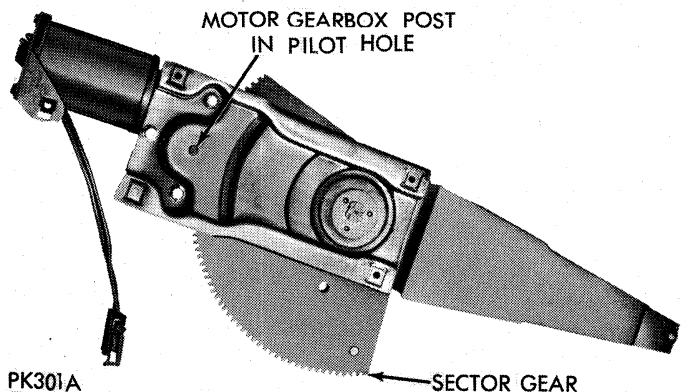

Fig. 4—Electric Motor Mounting (Typical)
- (2) Disconnect wiring connector from motor which is located about eleven (11) inches from motor.
- (3) Remove three (3) mounting screws that hold motor gearbox to regulator. Remove third screw that secures motor tie-down bracket to inner panel if so equipped. There are three holes in inner panel which provide access to three (3) mounting screws that secure gearbox to regulator (Fig. 4).
- (4) To remove motor from regulator, grip motor housing and pull motor towards outer panel. Some rocking or twisting action may be necessary to disengage motor from regulator. Do not have any hands or fingers in sector gear area where they can be pinched by small movements of regulator linkage.